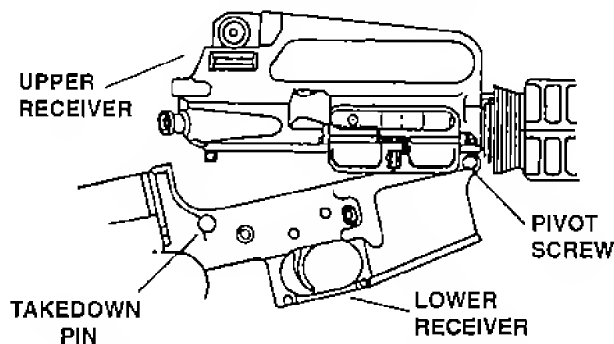

FIGURE 11 - RECEIVERS SEPARATED
3. Pivot lower receiver down and away from upper receiver. (See Figure 11.)
4. If required for more convenience, remove pivot screw from front of receivers, and completely separate receivers. (See Figure 11.)